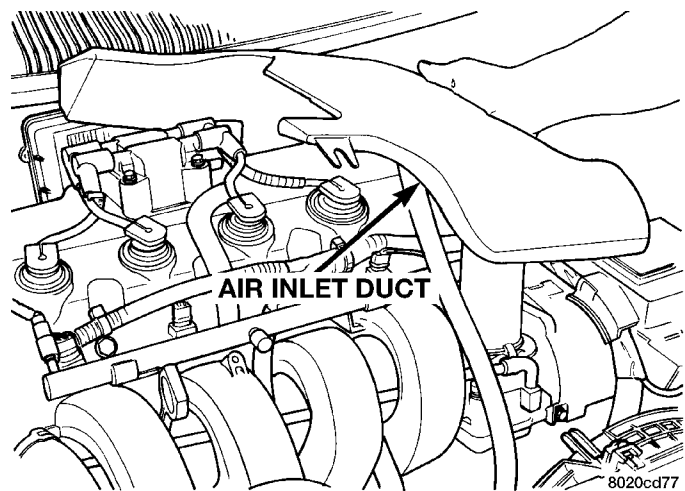

Fig. 19 Inlet Duct Removal
(1) Remove air cleaner inlet duct (Fig. 19)